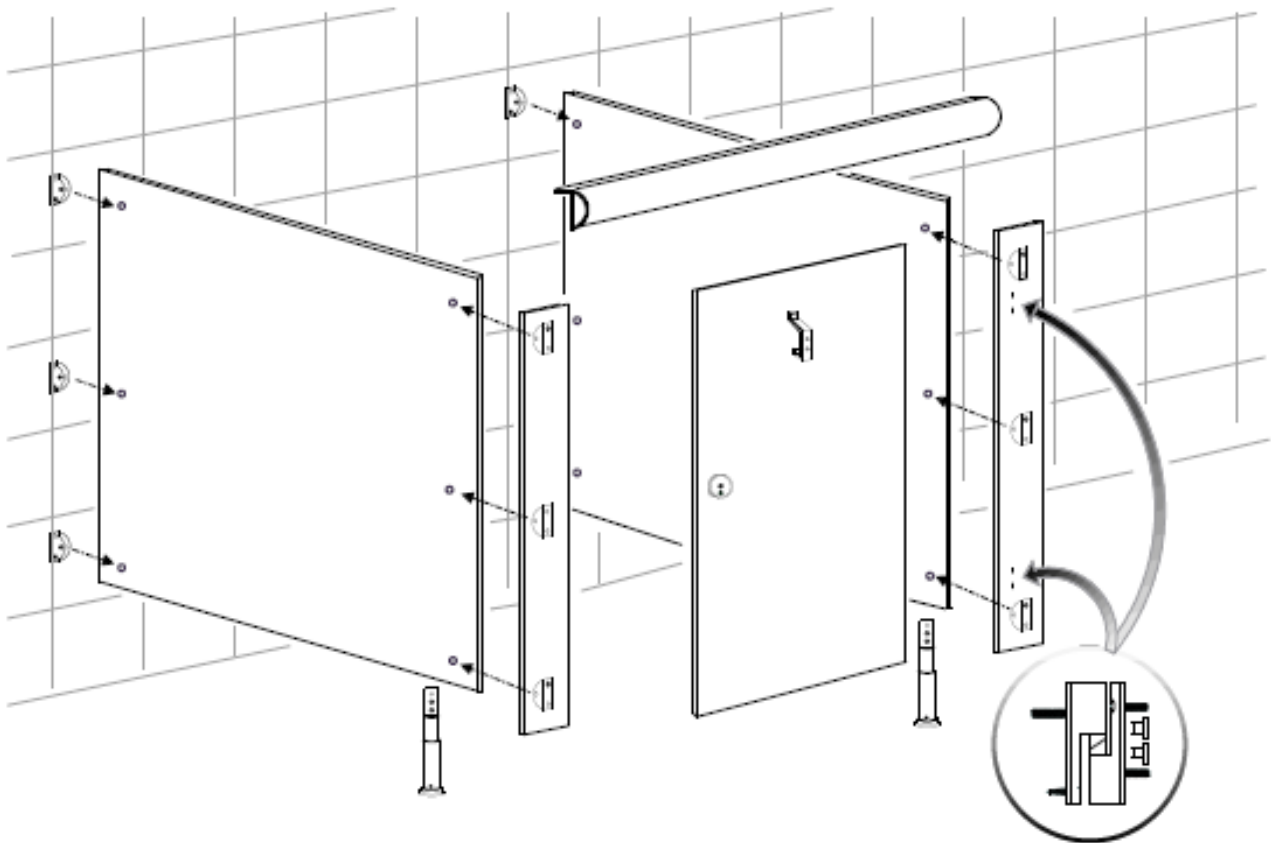

Fig 2 Typical Toilet Cubicle Configuration
8. Secure three mounting brackets to the fascia, again at the centre and at approximately 150mm from the top and bottom of the fascia in a similar manner to the divider (see Fig 2) as detailed on page 3. *Be aware that in certain configurations the fascias may be offset.*